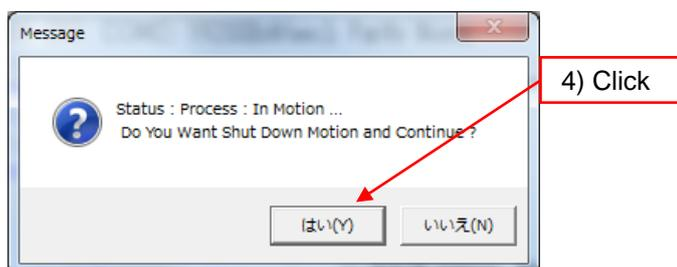

Fig. 6-2-5
- 3) When the excitation of the axis, which will be adjusted, is ON, the following message (Fig.6-2-5) will be displayed.